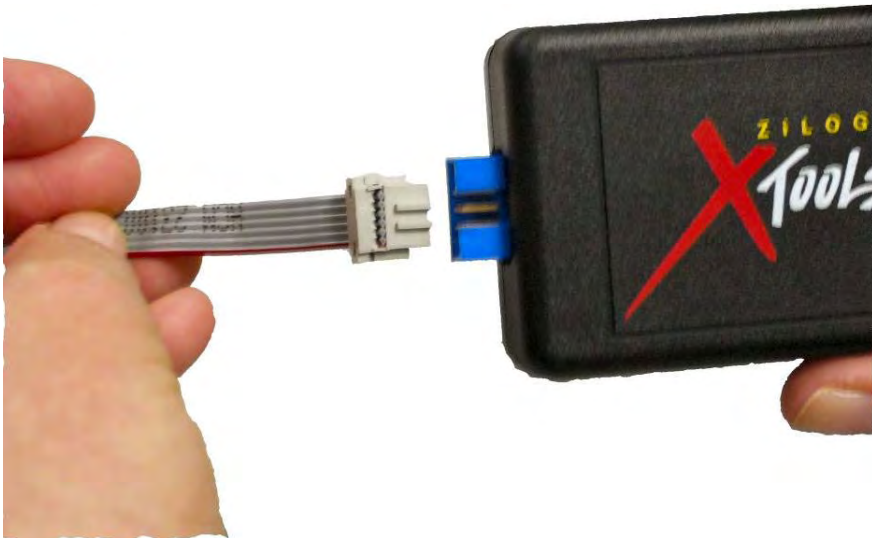

Figure 11. Connecting the Six-Conductor Ribbon Cable to the USB Smart Cable
1. Attach one end of the six-conductor ribbon cable (included) to the USB Smart Cable six-pin DBG connector, as shown in Figure 11.